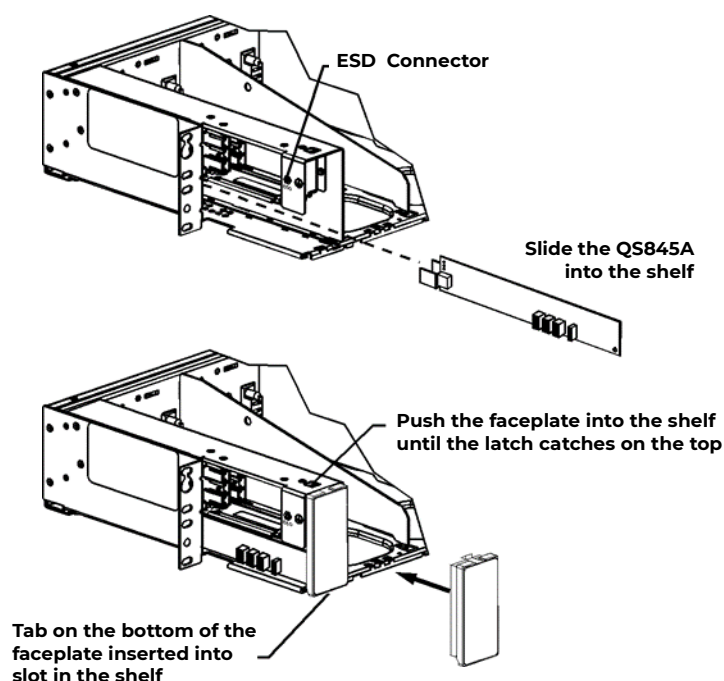

Figure 5-6: QS845A Supplementary Board Installation
3.	Slide the QS845A into the shelf until it is fully seated in the connector on therear of the CPS shelf. See Figure 5-6.